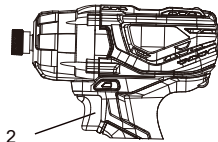

Fig. 6
1. To start the impact driver, gently squeeze the trigger switch (2) (Fig. 6). NOTE: The impact driver will turn at its slowest speed when the trigger switch is squeezed lightly. The impact driver will turn at its fastest speed when the trigger switch is squeezed firmly.